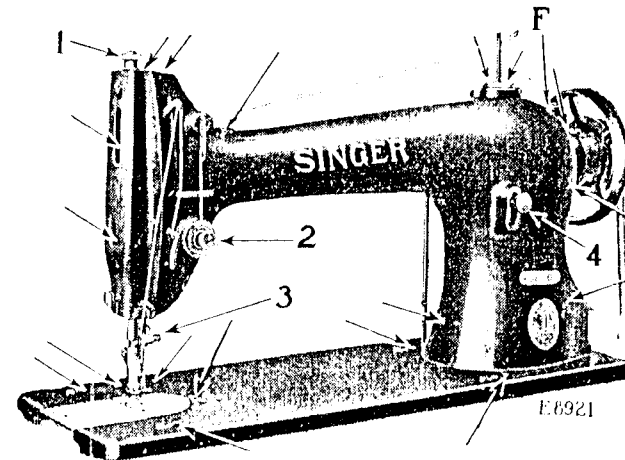
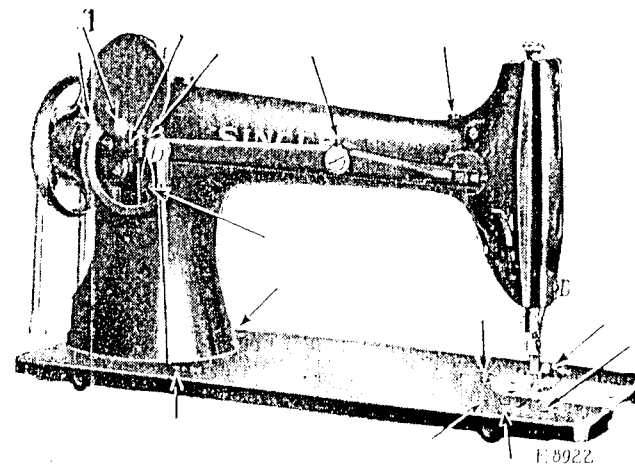

FIG. 15. OILING POINTS AND ADJUSTMENTS AT THE FRONT OF THE MACHINE
FIG. 16. OILING POINTS AT THE BACK OF THE MACHINE
Turn the balance wheel over toward you until the needle bar moves up to its highest point; loosen the screw (3, Fig. 15, page 17) in the needle clamp and put the needle up into the clamp as far as it will go, with the long groove of the needle toward the left and the eye of the needle directly in line with the arm of the machine, then tighten the screw.
The tension on the needle thread should only be regulated when the presser foot is down. Having lowered the presser foot, turn the small thumb nut (2, Fig. 15, page 17) at the front of the tension discs over to the right to increase the tension. To decrease the tension, turn this thumb nut over to the left.
The length of stitch is regulated by the thumb screw (4, Fig. 15) in the slot on the front of the upright part of the arm. To lengthen the stitch, loosen the thumb screw (4) and move it downwardly. To shorten the stitch, loosen this thumb screw and move it upwardly. When the desired length of stitch has been obtained, tighten the thumb screw.
The pressure on the material is regulated by the thumb screw (1, Fig. 15, page 17). To increase the pressure, turn this thumb screw over to the right. To decrease the pressure, turn this thumb screw over to the left.
Oil should be applied at the places as shown by arrows in Figs. 15, 16 and 17, and when the machine is in continuous use it should be oiled at least twice each day. Loosen the thumb screw (1, Fig. 16, page 17) in the round cover plate on the back of the machine, turn the cover plate up and oil the bearings which are thus uncovered.
Sufficient oil should be applied to the wicking which is retained in the oil tube (F, Fig. 15) to keep the wicking saturated. This tube conducts the oil to the arm shaft gears.